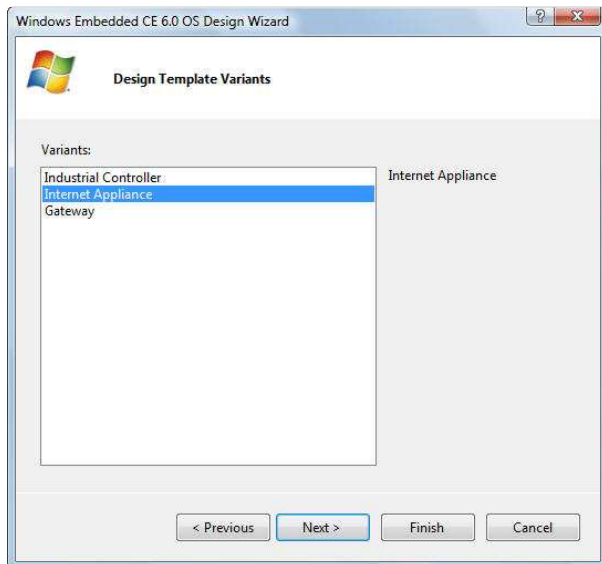

Fig. 8 - OS design wizard – Design Template Variants
- Click on the **Next** button to continue and bring up the **Design Template Variants** selection screen, as shown in Figure 8.